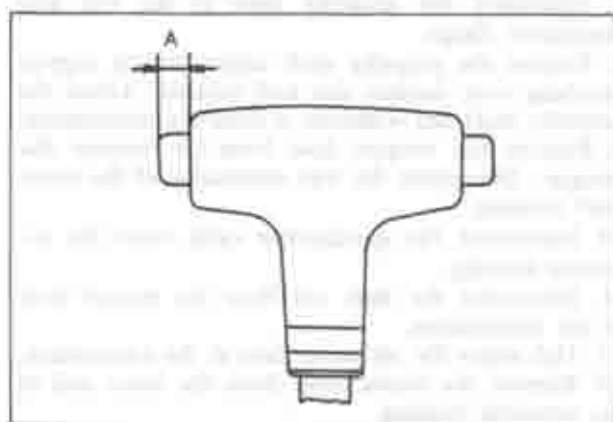

Fig. 7B-5 Selector lever knob
6. Repeat items (4) and (5) until the select lever can be shifted to P range smoothly.
8. In case, in item (7), the select lever can be shifted to R or 2 range without pushing the push button, it means that the select lever knob is excessively screwed in and so screw back the knob.
After the adjustment is completed, check the push button protrusion (A) as shown in Fig. 7B-5. The protrusion should be 6.0 ± 1.5 mm (0.24 ± 0.06 in) at N or P range.